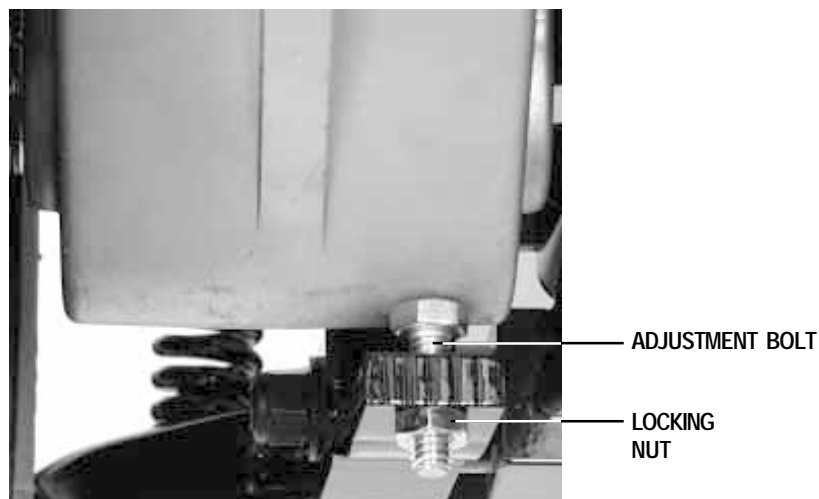

Figure 12. Anti-tip Height Adjustment
2. Locate the locking nut and adjustment bolt on the anti-tip assembly. See figure 12.